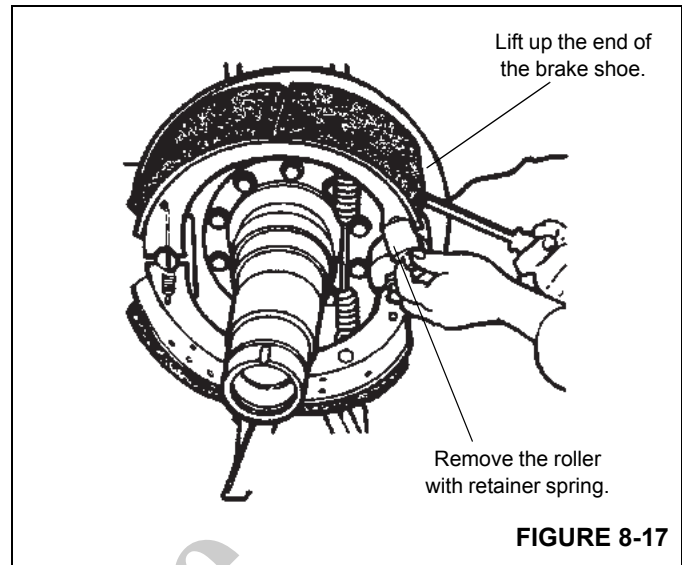

FIGURE 8-17
9. With a large screwdriver or lever, lift the upper shoe and remove the roller and retainer as a unit (see Figure 8-17).